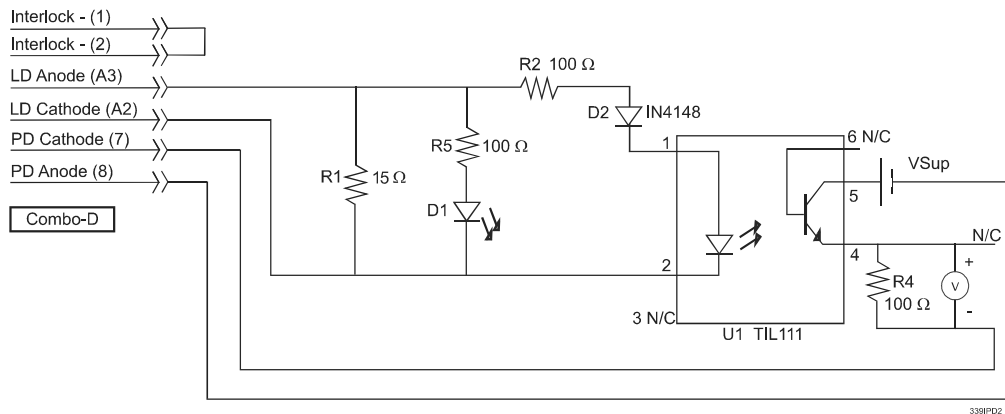

Figure 5.1 I_{PD} Calibration Circuit
You must connect various loads and circuits to the outputs of the module for the calibration procedure. The devices required for most of the calibration loads are listed in Table 5.4. A schematic is shown in Figure 5.1 for the photodiode calibration circuit, with the required components listed in Table 5.3.
- 1 With the output off, connect the IPD calibration circuit, Figure 5.1 on page 68, to the laser connector.